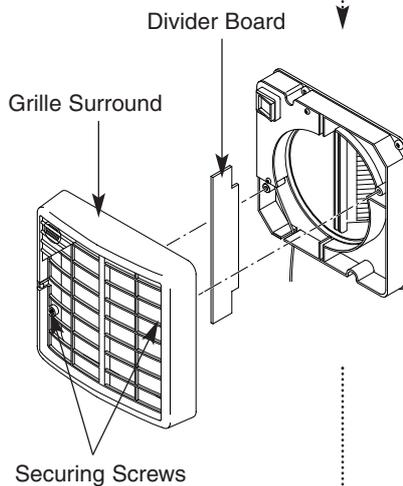

Fig. 45
3. Loosen the two securing screws and remove the grille surround (Fig. 45).
4. Remove the divider board and slide out the heat exchanger (Fig. 45 & 46).